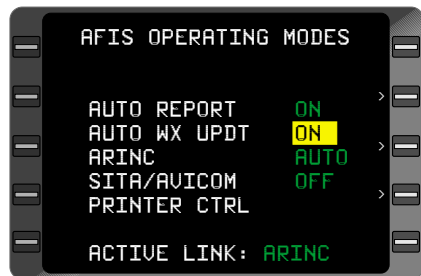

Figure 7-118
5. **BACK** Key - DEPRESS. **ON** appears in the cursor. (Figure 7-118)